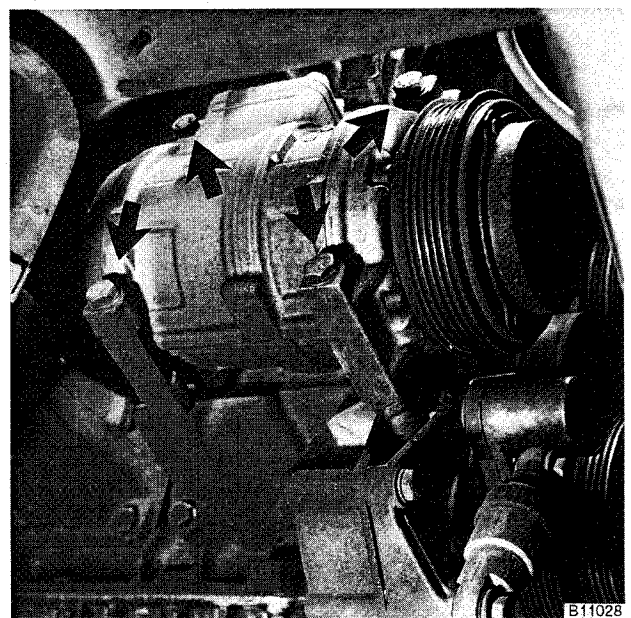

Fig. 15. A/C compressor mounting bolts (arrows).
21. Remove A/C compressor from its mounting bracket without disconnecting any refrigerant lines. See Fig. 15.